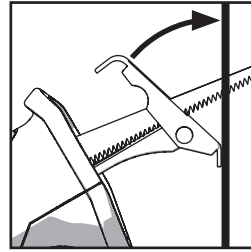

Fig. 7
- Hold the machine at an angle to the workpiece with the bottom edge of the workpiece contact plate resting firmly against the workpiece. **(Fig. 7).**